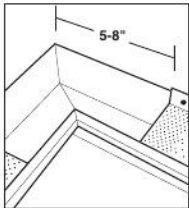

Fig. 3b
- To install an **inside corner**, stop the section of Gutter Warrior™ 5-8" from inside corners, leaving a space to apply the gutter sealant. (Fig. 3b)